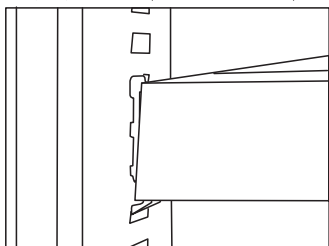

fig. 9B
3. Replace shelf. Check that shelf brackets have been positioned at equal height (fig. 9B).